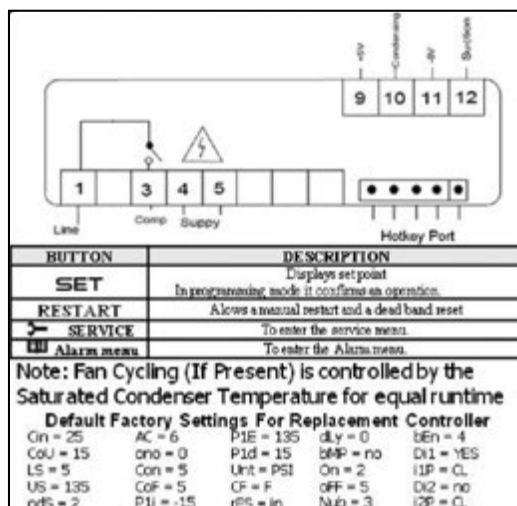

Figure 13 – Example of Default Parameters and Schematic on Inside Label
5. Compare displayed values with the values on the provided label (See **Figure 13**).